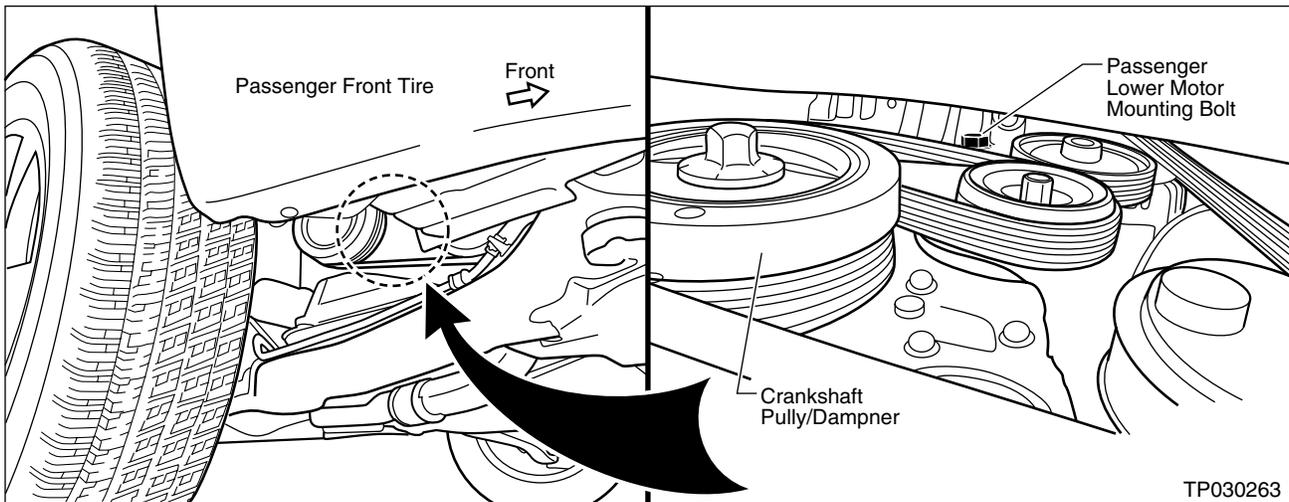

Figure H3
- The Passenger Side Lower Motor Mount Bolt can be difficult to see. Before you remove the engine, remember to remove this bolt. See Figure H3.